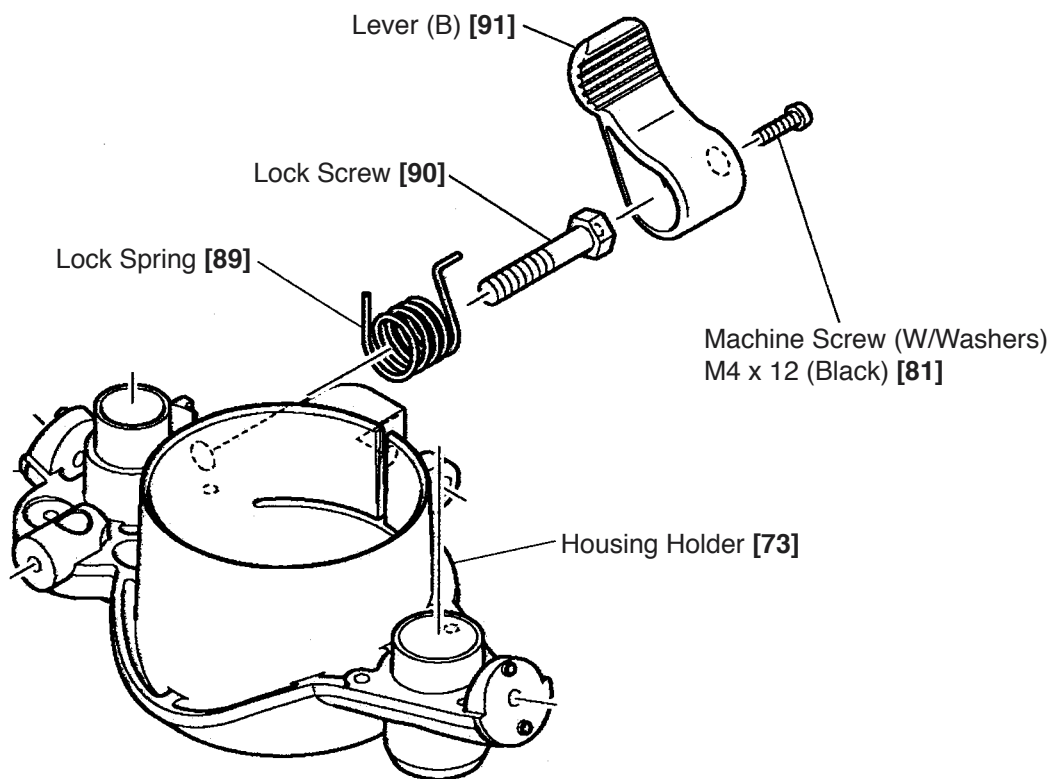

Fig. 12
(2) Removal of Lever (B) [91] (Fig. 12)